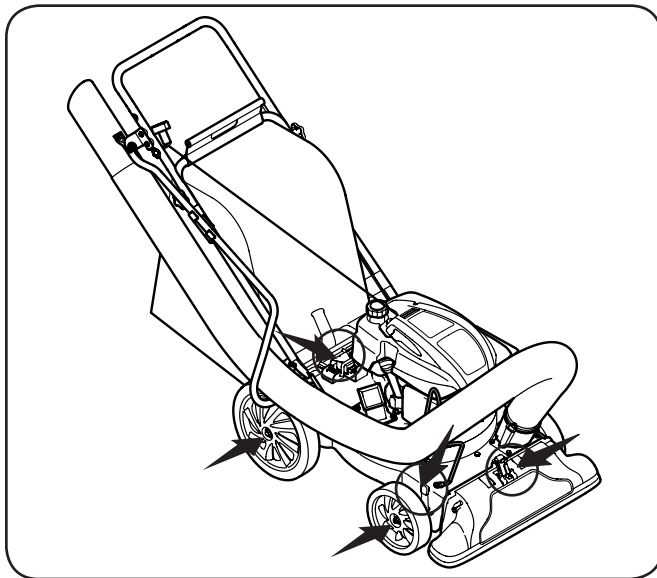

Figure 6-1
4. Lubricate the nozzle/hose vac lever on top of the nozzle once a season with light oil. See Fig. 6-1.